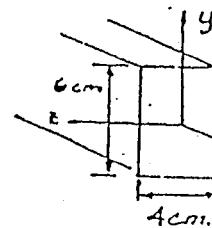

Fig. 1
1. The stress distribution on the rectangular cross-section shown in Fig. 1 is given by $\sigma_{xx} = 1000y - 500z + 800$ kPa, $\sigma_{xy} = 200z$ kPa, $\sigma_{xz} = 0$. What is the net internal force system on this cross-section?